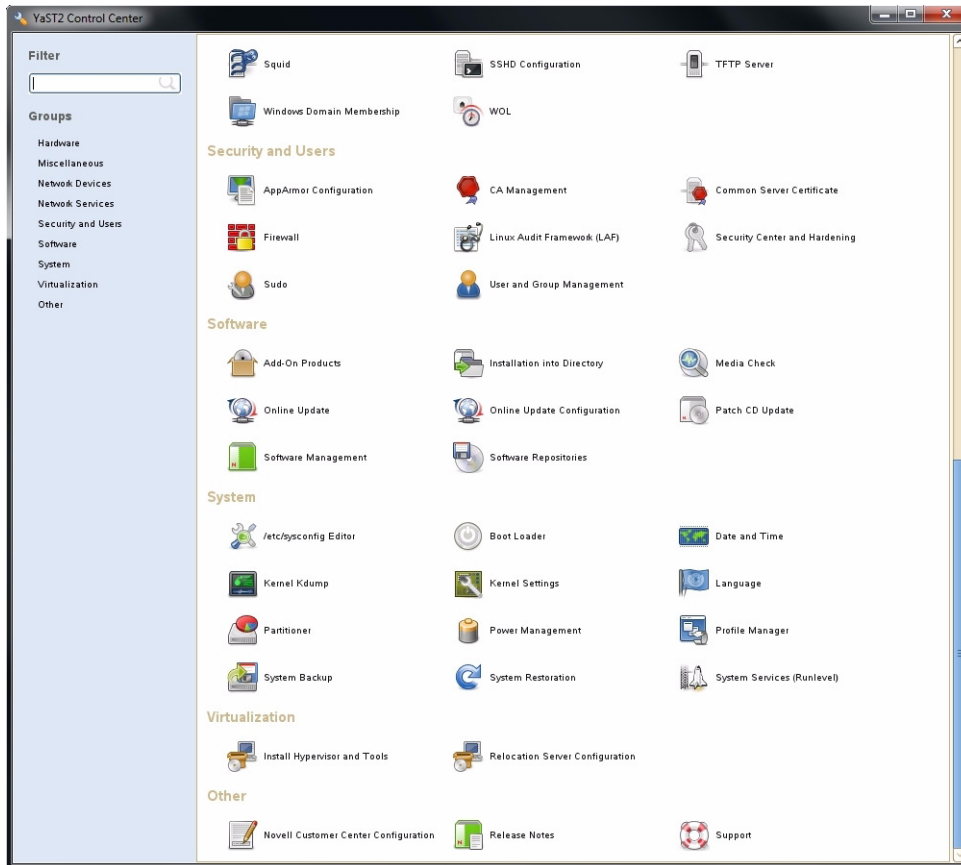

Figure 3-22 Yast2 Server Manager GUI
1. Issue YaST2 command (i.e., # `yast2`) to launch the YaST 2 Server Manager GUI (Figure 3-22).